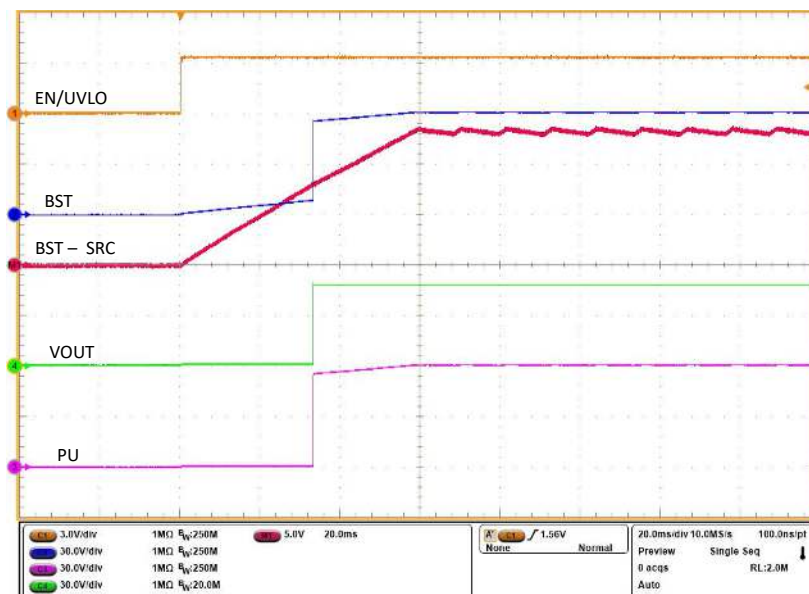

Figure 5-4. Start-Up Profile of Bootstrap Voltage for INP = HIGH
9. Now again, enable the EN/UVLO to HIGH to observe the start-up profile of BST, GATE and SRC when INP = HIGH as shown in Figure 5-4.